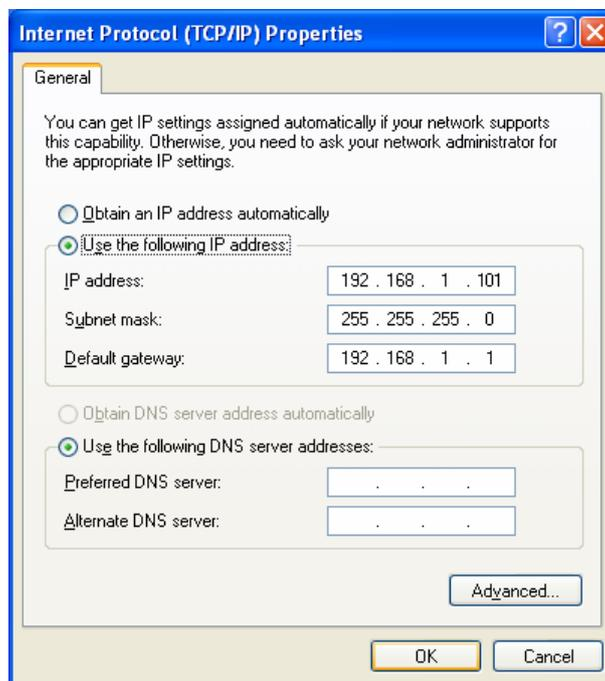

Figure 3-32
11. Enter the “**Internet Protocol (TCP/IP) Properties**” page as shown in Figure 3-32. Fill in the following parameters.